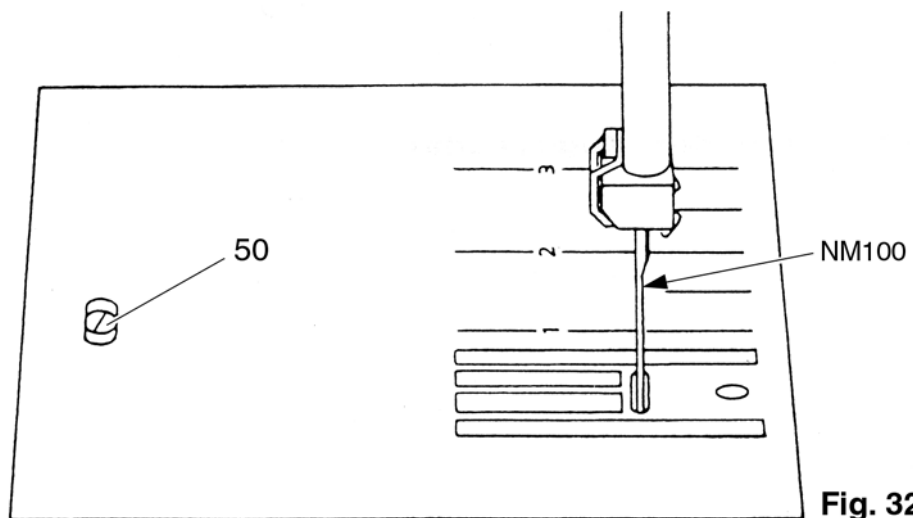

Fig. 32
- Turn adjustment eccentric 50 until the distance from the front and rear edges of the needle hole is equal (fig. 32).